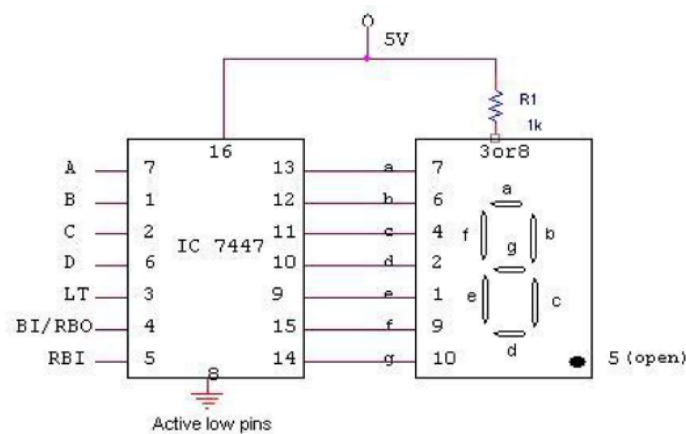

*Fig. 5*
**The Light Emitting Diode (LED)** is a semiconductor device which finds its place in many applications in this modern electronic fields and one of them is the Seven Segment Display. Seven-segment displays consists of seven individual LED's arranged in 'Eight' (8) shape, and a Dot (.) with a common electrode, lead (Anode or Cathode). The purpose of arranging it in that form is to be able to make any number out of that by switching ON and OFF the particular LED's. Figure 5 gives the block diagram of the Seven Segment LED arrangement.